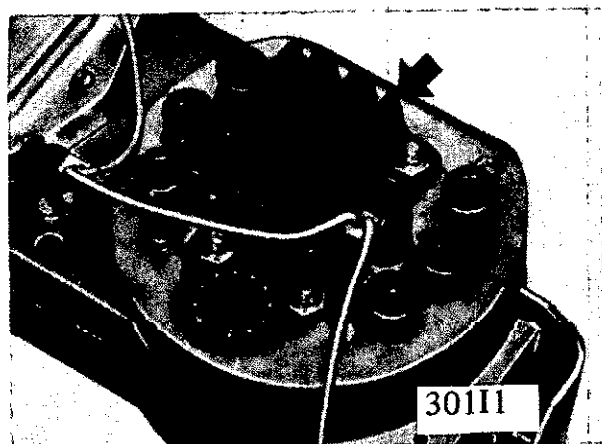

Figure 1I-1 -Voltage Stabilizer
2. Pull voltage stabilizer of back of printed circuit. See Figure 1I-1.
2. Remove six screws shown in Figure 1I-2 and remove both instrument cluster lens.
3. Remove three speedometer attaching screws. See Figure 1I-3.
2. Remove six screws and remove both instrument cluster lens, as shown in Figure 1I-2.